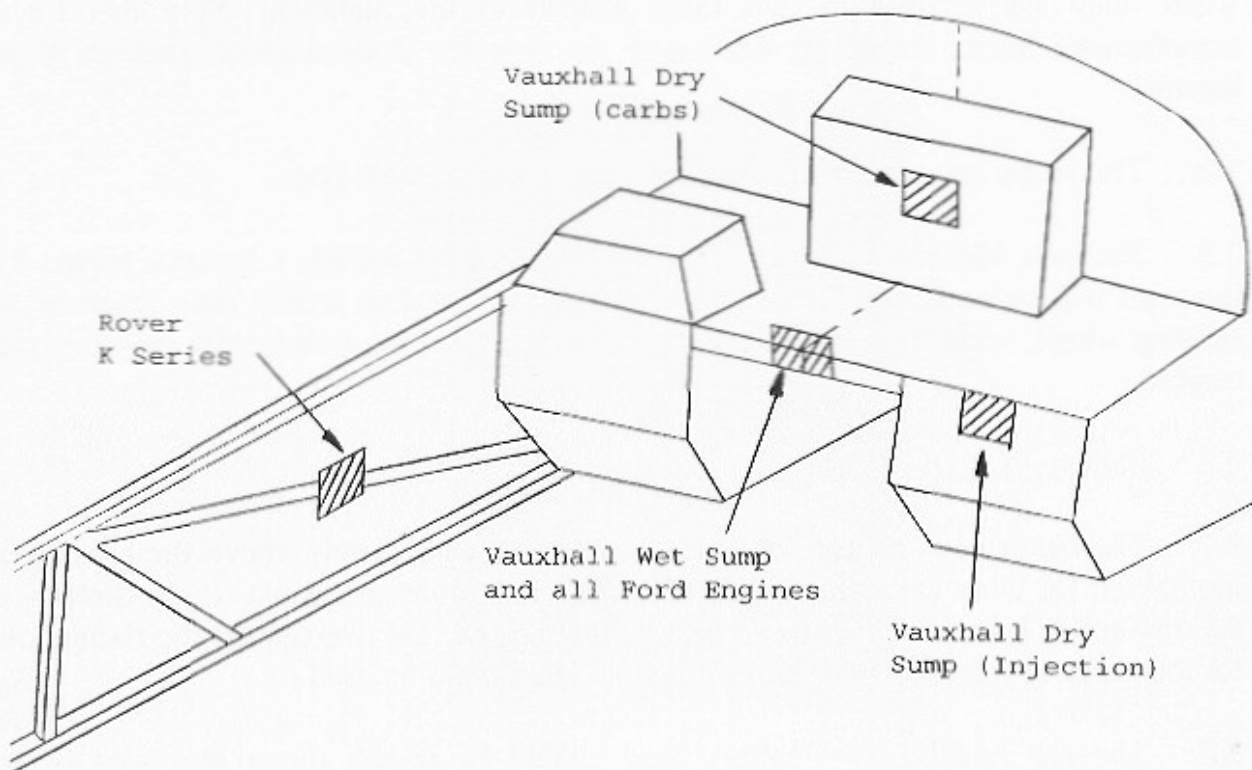

Figure 9.6.1 Screenwasher Bottle Position - All Models
6.1 On Ford and Vauxhall wet sump cars, the bottle/motor assembly is fitted to the forward face of the chassis frame in the centre immediately above the gearbox top cover. Offer up the washer bottle clipped into its mounting bracket and mark a suitable location for the bracket ensuring that the bottle is well clear of the gearbox, which means that the bracket will be protruding above the top of the chassis cross tube. This mounting bracket is riveted or screwed in place with self-tapping screws. See figure 9.6.1 for all variants.